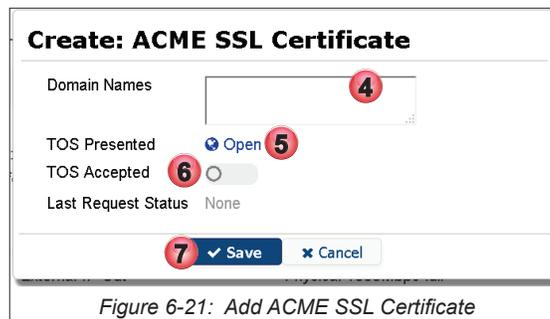

Figure 6-21: Add ACME SSL Certificate
- Update the form with **Domain Names**, Figure 6-21.